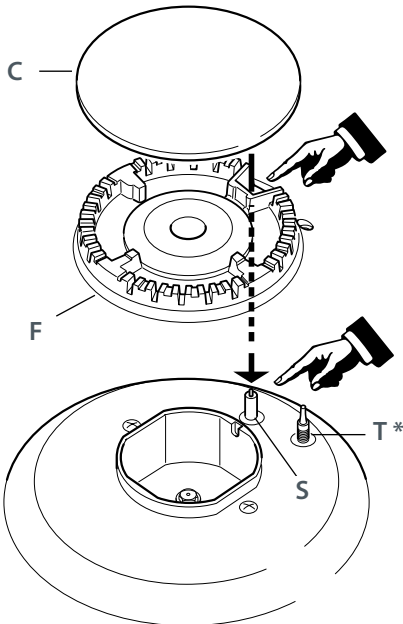

Fig. 9 Correct line-up of the burner parts
- It is very important to check that the burner flame spreader "F" and the cap "C" have been correctly positioned (see fig. 9).
- Check that the ignitor S (figs. 9 and 11) is always clean to ensure trouble-free sparking.
- In the models with the flame failure safety device, check that the probe T (figs. 9 and 11) next to each burner is always clean to ensure correct operation of the safety valves.
- Both the ignitor (S) and probe (T) must be very carefully cleaned using a toothbrush and methylated spirits.